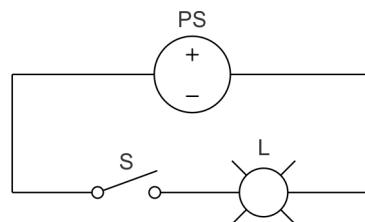

Figure 1. Schematic diagram of a circuit made of a power source and a switch controlling a lamp.
Figure 1 shows the schematic diagram of a circuit made of a power source (PS) and a single pole switch (S) controlling a lamp (L).